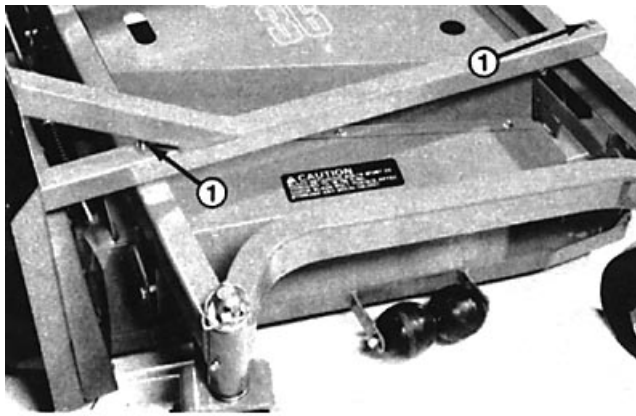

Figure 2
1. Position the back panel and attached mounting beams onto the cutting deck and carrier frame. Center the opening in the back panel to the deflector (Fig. 2).
3. Fasten the front mounting beam to the holes in the cutting deck with two 3/8"-16 x 2-1/4" cap screws, flat washers and flange nuts. Install the cap screws up from the bottom of the carrier frame with the flange nuts on top (Fig. 2).
4. Fasten the rear mounting beam to the holes in the cutting deck with two 3/8"-16 x 4-1/2" cap screws, flat washers and flange nuts. Install the cap screws up from the bottom of the carrier frame with the flange nuts on top (Fig. 2).